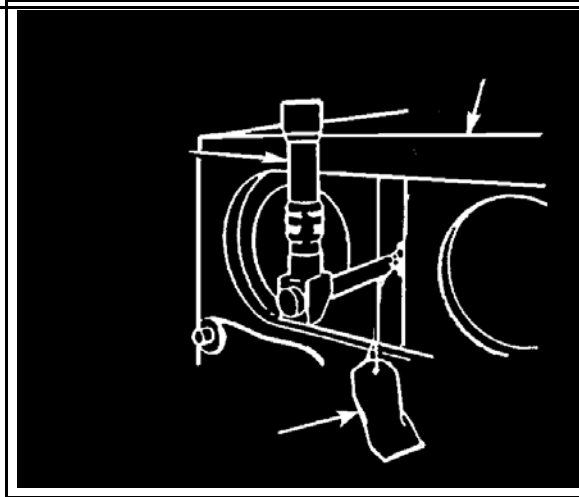

Figure 6. Boresight kit.
11. The helper installs the boresight telescope (Figure 6).